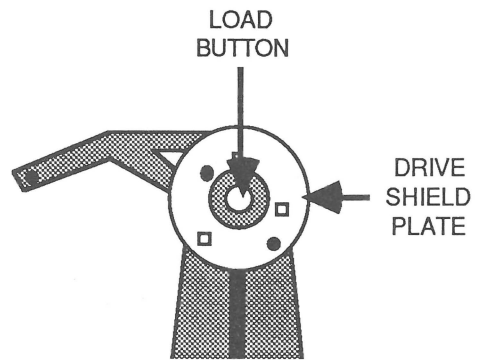

FIGURE 8
6. Place the upper head shield plate against the head load arm. The raised ridges should face the arm, and the circular opening should line up with the opening in the arm (Figure 8).